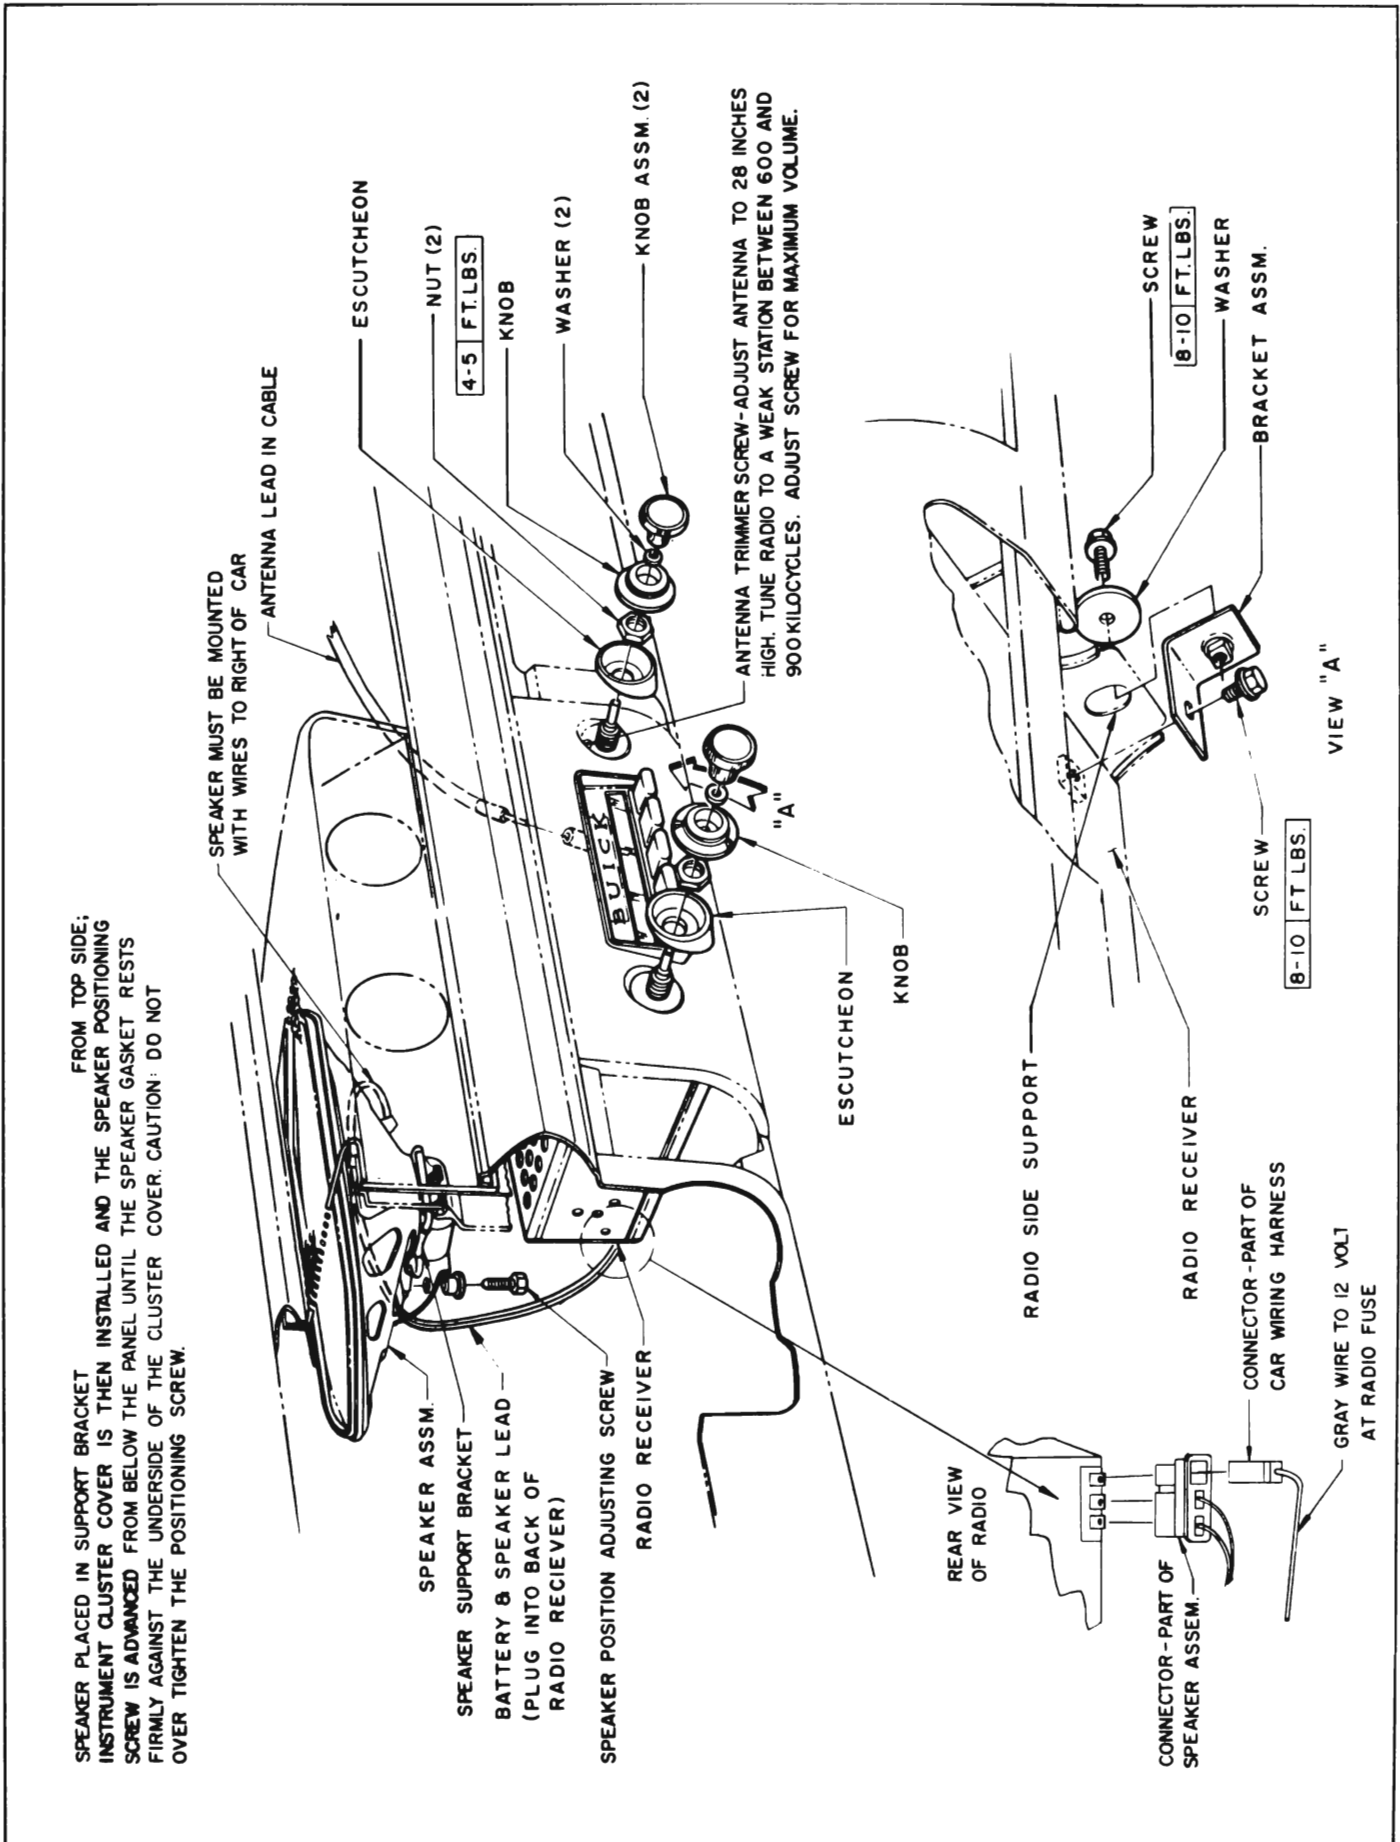

Figure 11-2—Radio Receiver and Speaker Installation
(c) Remove both right inner and outer knobs from radio tuning control shaft. Insert a small screwdriver through hole located under inner knob and turn trimmer screw for maximum volume. See Figure 11-2.
1. Install receiver from beneath, inserting threaded bushings through control holes in instrument panel. Install escutcheons and hex nuts on bushing. See Figure 11-2. Torque nuts to 5 ft. lbs.
2. Unplug three-way connector from rear of receiver. Then pull the gray wire connector out of the three-way connector. See Figure 11-2.
5. Plug three-way connector into rear of radio receiver. Then plug the gray wire connector into three-way connector. See Figure 11-2.
NOTE: Speaker should seat firmly against cluster cover. If speaker is too loose or is positioned too high to allow cover to be properly installed, it will be necessary to adjust the speaker positioning screw as indicated on Figure 11-2.
3. Remove both right inner and outer knobs from radio tuning control shaft. Insert a small screwdriver (4" long with 1/8" blade) through hole located under inner knob and turn antenna trimmer screw for maximum volume. See Figure 11-2.